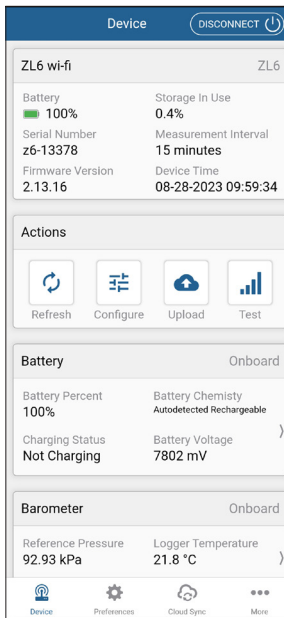

Figure 12 Select Test to begin Communication Test
1. Select the **Test** button on the Actions panel (Figure 12).